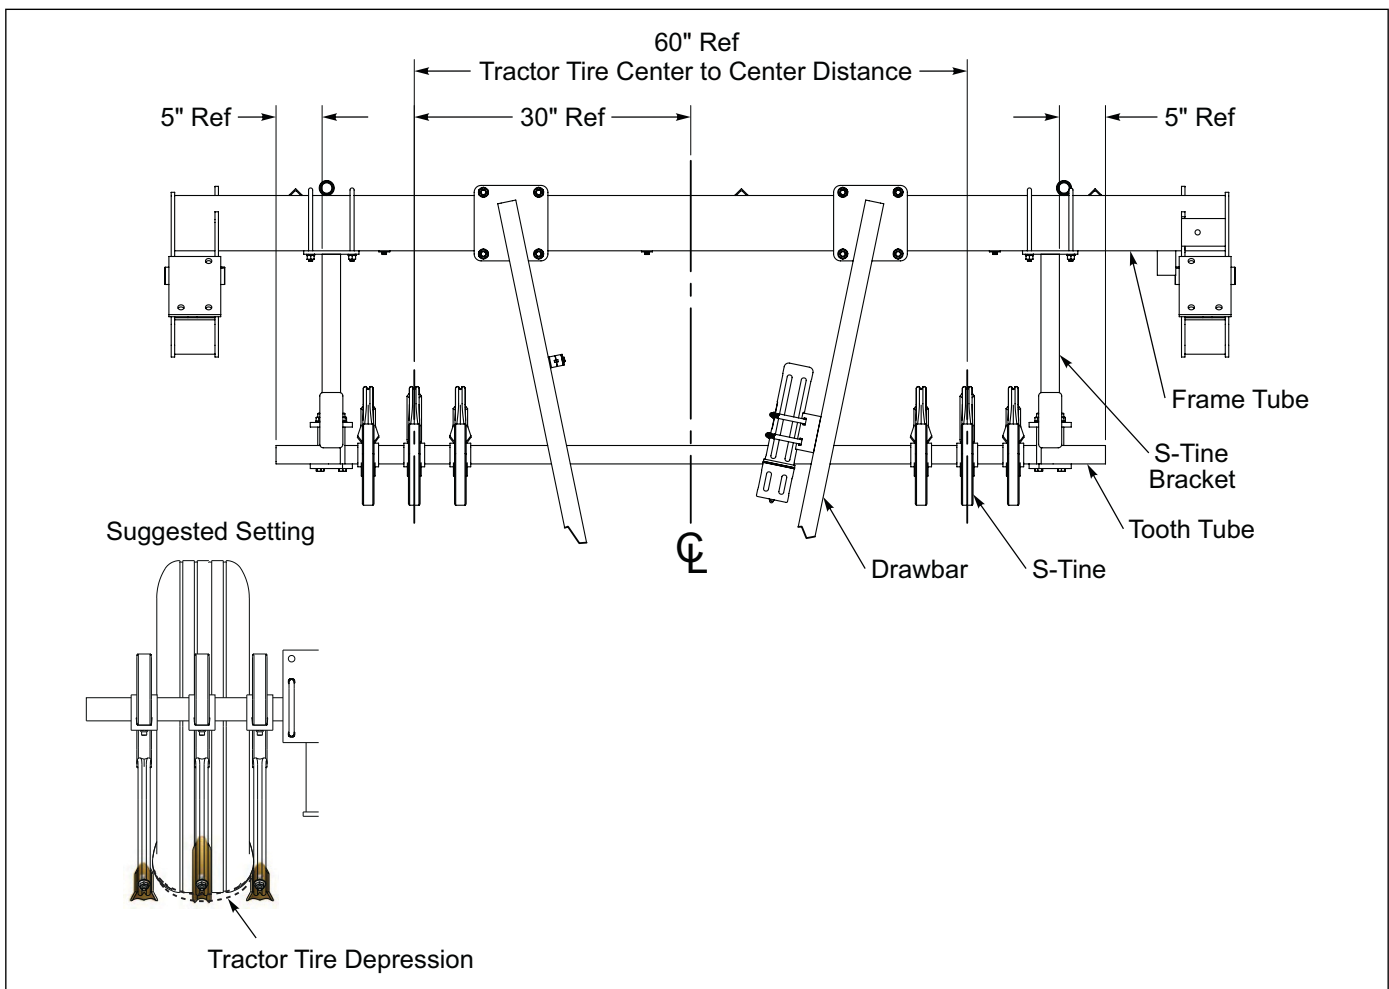

Figure 2-31: S-Tine Setup
2. Attach the Tooth Tube to the S-Tine Brackets approximately 5 inches from each end of the Tooth Tube with Straps, 1/2-13 x 6 Bolts, Lock Washers and Nuts. See Figure 2-31.